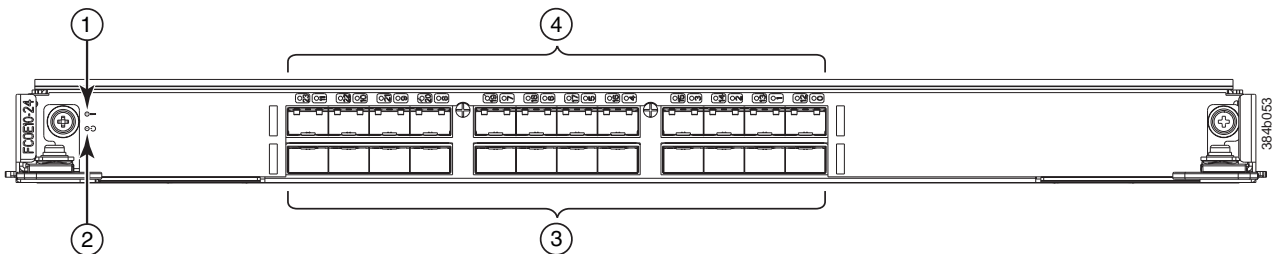

Figure 24. FCOE10-24 blade
- Figure 24 on page 48 illustrates the FCOE10-24 Fibre Channel over Ethernet blade